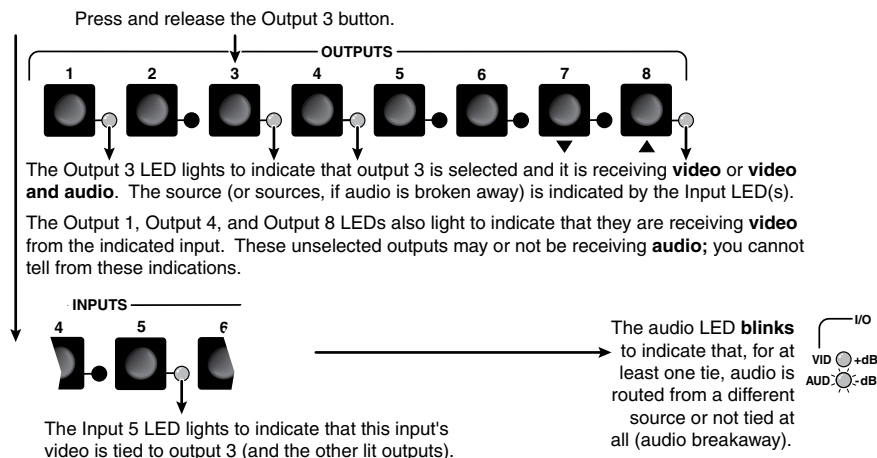

Figure 3-23 — Select an output
2. Press and release the Output 3 button (figure 3-23).